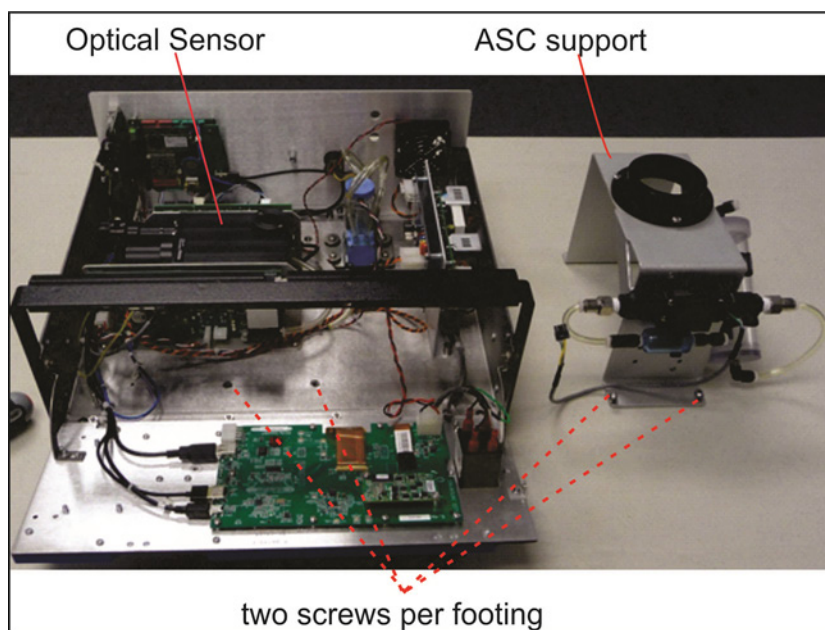

Figure 7. Maintenance of the optical chamber and RH/T sensor access.
12. Remove the ASC support, which straddles the sensors. Four screws secure that support to the floor of the instrument, two on each footing (Figure 7). Note: it is possible to clean the optics without removing the ASC support; however, removing the ASC support will allow more room to access the tubing lines and optical chamber.